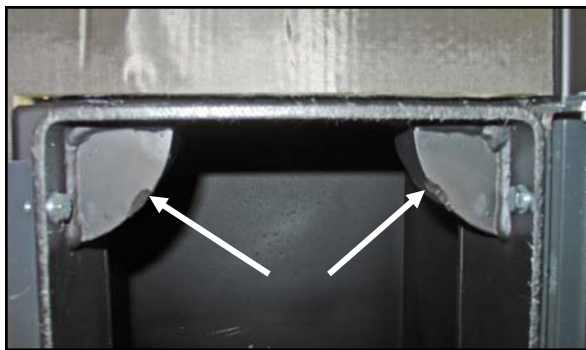

Fig. 4.10 Primary Air Ducts
2. Check the Primary Air duct holes (**Fig.4.10 & 4.11**) for unobstructed airflow.